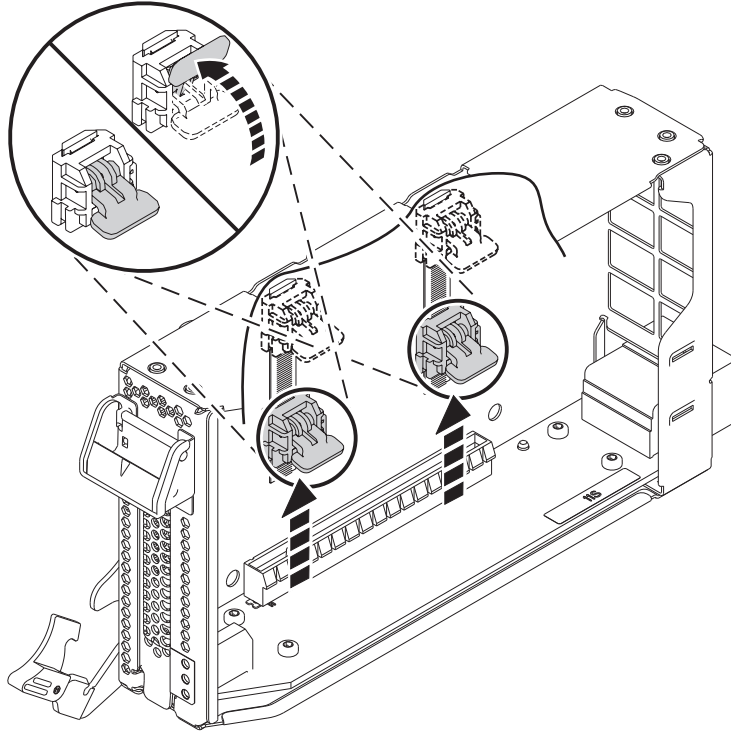

Figure 16. Unlocking the cassette ratchets
- a. Unlock both the cassette ratchets by rotating them, as shown in Figure 16 on page 16.
- b. Push up the cassette ratchets to the top edge of the cassette, as shown in Figure 16 on page 16.